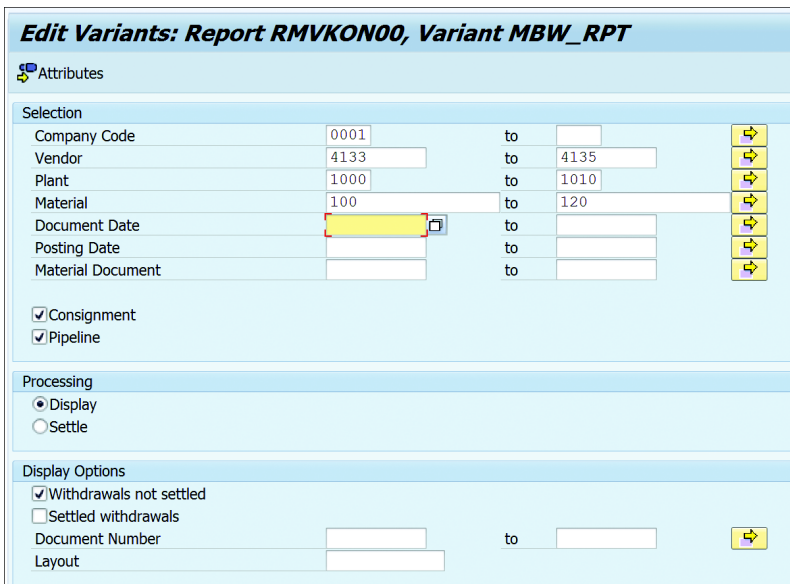

Figure 14.3 Selection Screen of Transaction MRKO
3. The system will call the selection screen for which the variant is being created, as shown in Figure 14.3.